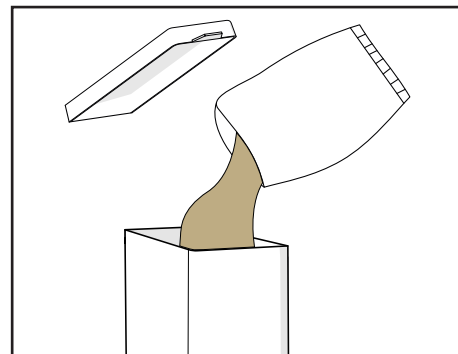

Figure 45.
3. Remove the lid from the canister. Fill the canister to a maximum of three quarters of its capacity (see Figure 45).